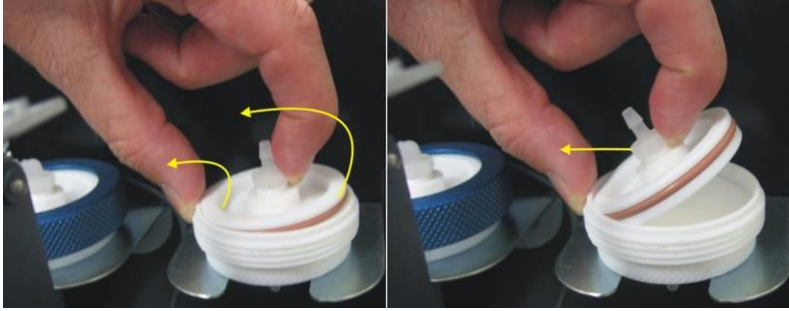

Figure 52 – Removing plunger
4. Remove the filter plunger from the casing, place finger on tubing connector and pull to the side (refer to Figure 52).